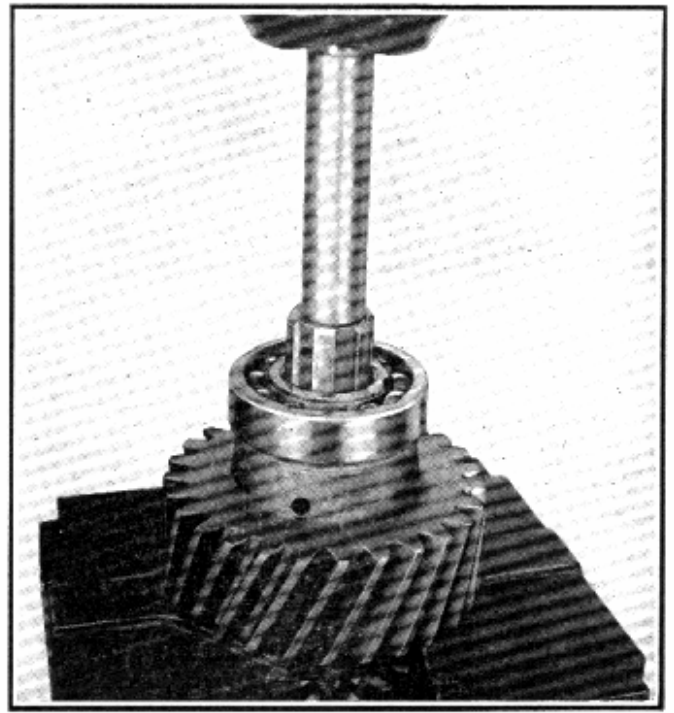

Fig. 18—Pressing off the Mainshaft Rear Bearing
2. Remove the power take-off clutch (82) from the end of the shaft by first removing the locking ring (81) and driving out the tapered pin with a 1/8" pin punch.
3. Place the mainshaft assembly in an arbor press, with the rear or clutch end facing upward. Support the assembly by the front face of the mainshaft gear (78) and press on the rear end of the mainshaft as shown in Fig. 18. This operation will remove the rear ball bearing (83), the rear thrust washer (84) between the bearing and the mainshaft gear (78). Note that the chamfer side of the rear thrust washer is installed towards the rear